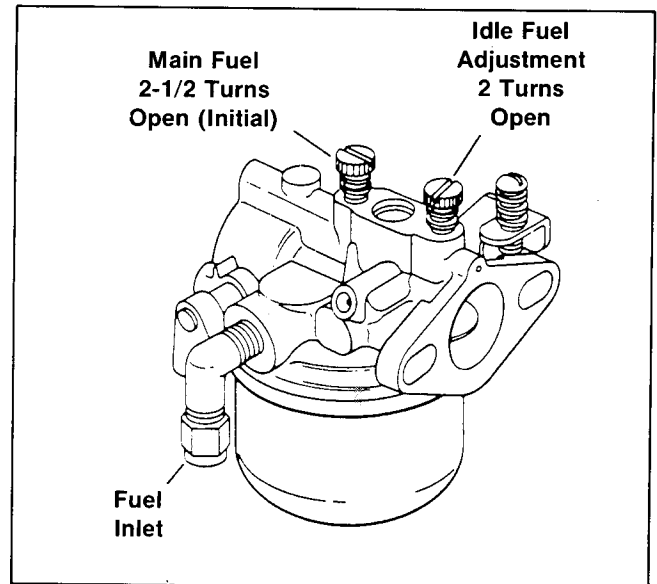

Figure 9-2. Carburetor Adjustments
1. Turn idle fuel screw (Figure 9-2) in until lightly seated, then turn out 2 turns.
4. For final adjustment, turn Main Fuel needle (Figure 9-2) in until engine starts to slow down from too-lean mixture (note position), then back out until speed increases — continue turning richer until speed again starts to drop from over-rich setting then turn needle back in until it is positioned about halfway between lean and overrich settings.